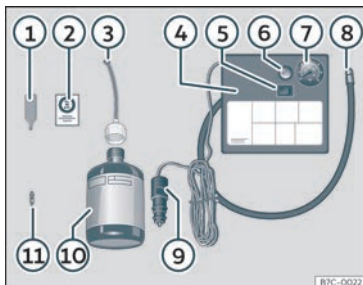

Fig. 34 Standard representation: anti-puncture kit contents.
The anti-puncture kit is located underneath the floor covering in the luggage compartment. It includes the following components » Fig. 34:
- Unscrew the tyre valve cap and insert. Use the » Fig. 34 ① tool to remove the insert. Place it on a clean surface.
- Shake the tyre sealant bottle vigorously » Fig. 34 ⑩.
- Screw the inflator tube » Fig. 34 ③ into the sealant bottle. The bottle's seal will break automatically.
- Remove the lid from the filling tube » Fig. 34 ③ and screw the open end of the tube into the tyre valve.
- Place the insert back into the tyre valve using the tool » Fig. 34 ①.
- Screw the compressor tyre inflator tube » Fig. 34 ⑧ into the tyre valve.
- Check that the air bleed screw is closed » Fig. 34 ⑥.
- Insert the connector » Fig. 34 ⑨ into the vehicle's 12-volt socket » page 145.
- Turn the air compressor on with the ON/OFF switch » Fig. 34 ⑤.
- Attach the sticker >>> **Fig. 34** ② to the instrument cluster, within the driver's visual field.
Screw the inflator tube >>> **Fig. 34** ⑤ again and check the pressure on the gauge ⑥.